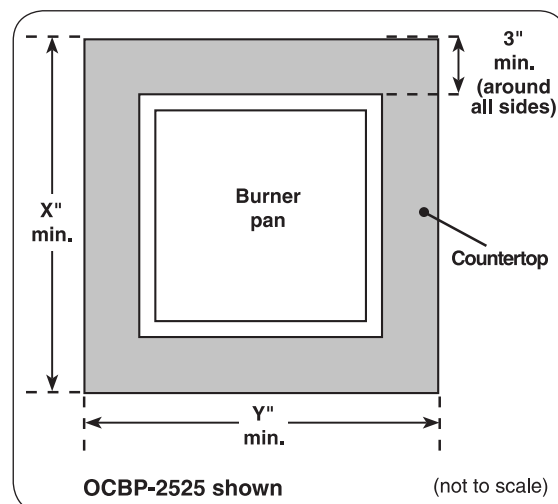
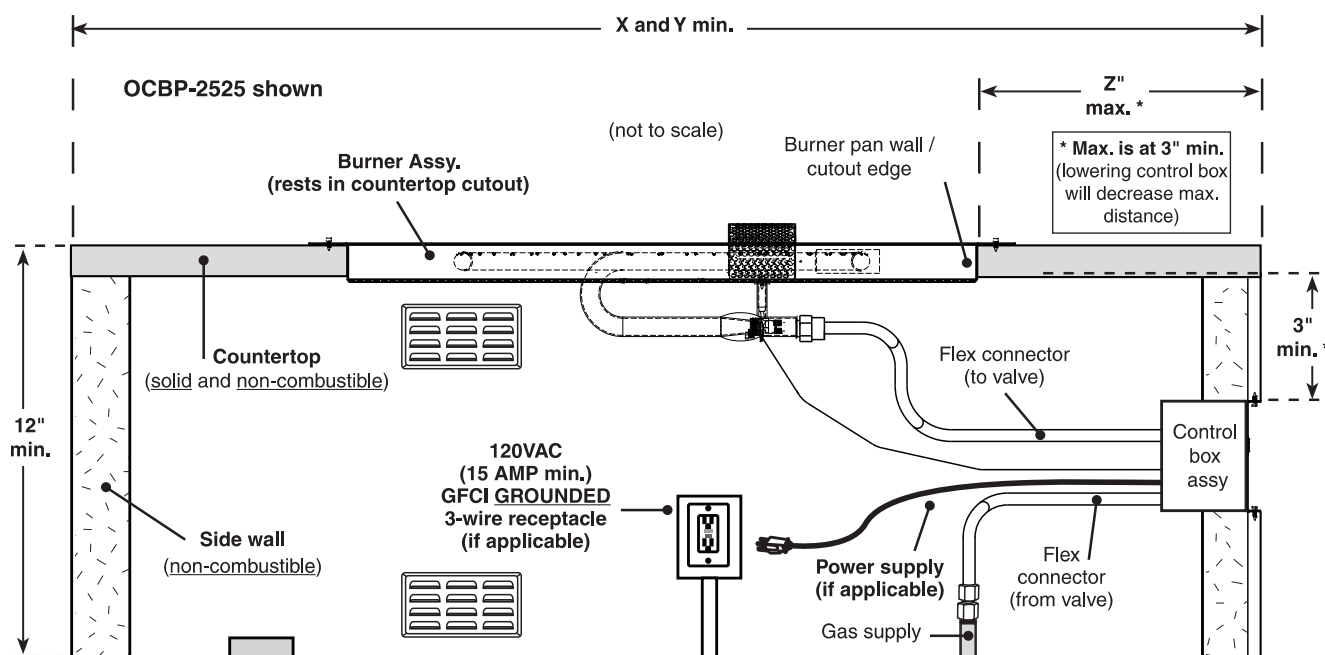

Fig. 11-1 Countertop minimum (top view)
Fig. 11-2 Enclosure specifications (side view)
The enclosure **MUST** (see Fig. 11-1 and Fig. 11-2):
- have a countertop minimum of X" x Y" (see Fig. 11-1 & Table 7)
- set back the burner pan wall (i.e., cutout edge) no more than Z" from the outer side wall (see Table 7 & Fig. 11-2)
- meet all other requirements found in Fig. 11-1 and Fig. 11-2 below